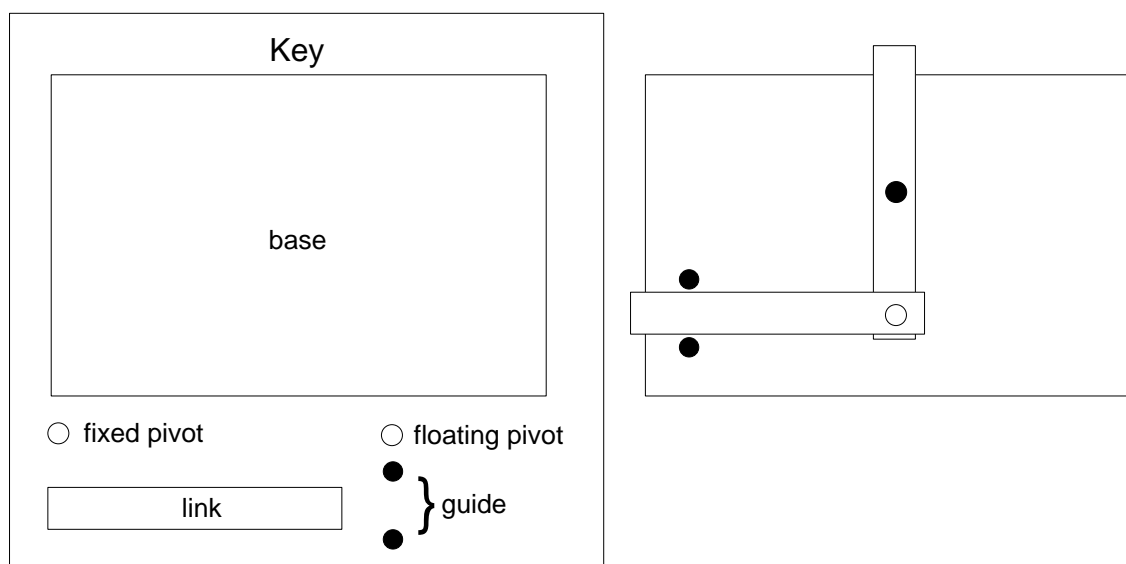

Figure 3: Diagram of a mechanism, using a key to explain the symbols
3. **Showing what the symbols mean:** Anyone who reads the diagram will need to know what each symbol means. On a map or floor plan, this problem is solved by including a **key**, which is a table that translates between symbols and words. Figure 3 shows the same diagram as in Figure 7 of Lesson 2, except that a key is added to replace the labels.
place by means of symbols. Some symbols are so familiar or obvious that nobody needs to explain them, except perhaps to young children or visitors from another society. Other symbols are not so clear, so they need to be translated into a familiar language. A translation table used on a map or diagram is called a **key**. It shows what each symbol means in ordinary language. Figure 3, above, shows an example of a key.